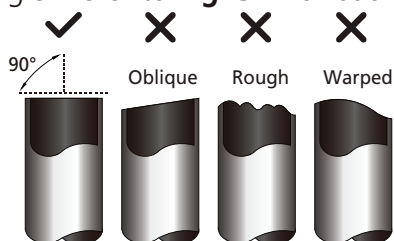

Fig. 5.1
- Make sure that the pipe is cut at a perfect 90° angle. Refer to **Fig. 5.1** for bad cut examples.